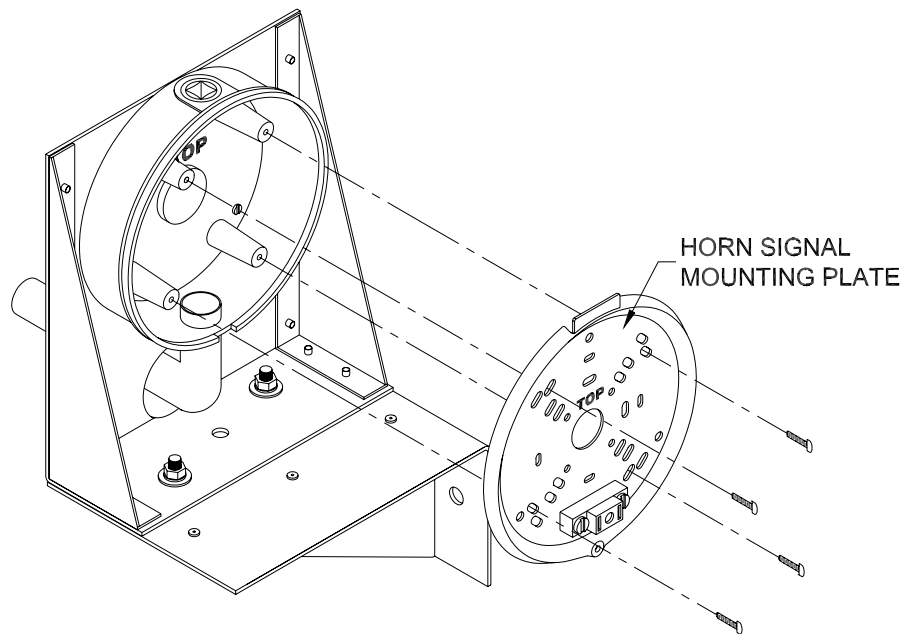

Figure 12 Horn Signal Mounting Plate Attachment
13. Align the horn signal mounting plate with the back box so that the word "TOP" on the horn signal mounting plate and the back box should be oriented in the same direction and the screw hole on the bottom edge of the horn signal mounting plate should be directly over the gap in the back box gasket as seen in figure 12.